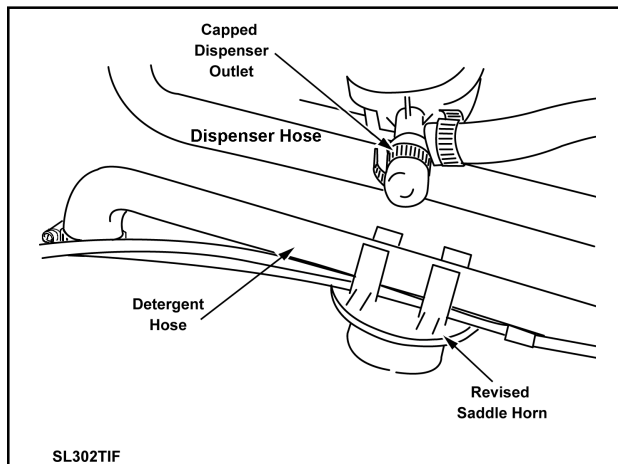

Figure 8-12
6. The detergent hose turns 90 degrees toward the front of the washer and passes through the saddle horn on the top of the outer tub. Unsnap the hose from the saddle horn. (See Figure 8-12)